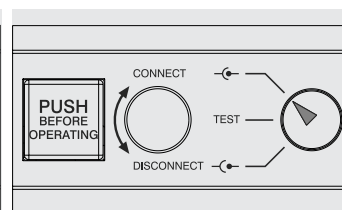

Figure 103
- circuit-breaker in CONNECT position (see Figure 103)